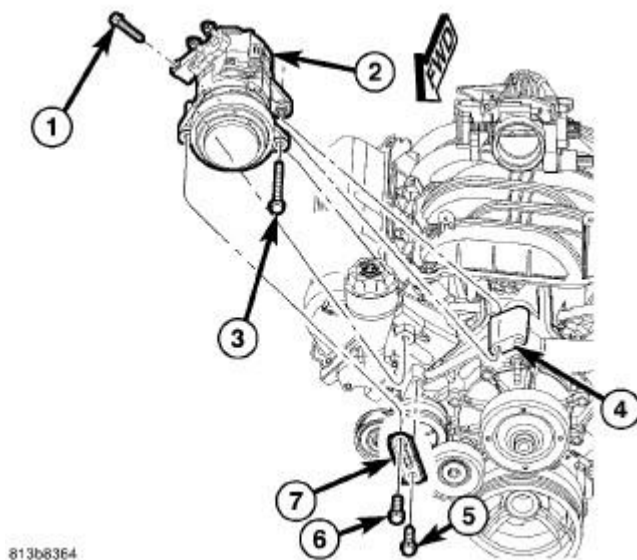

Fig. 20: A/C Compressor Removal/Installation
34. Install the A/C compressor (2). Refer to **Fig. 20**.